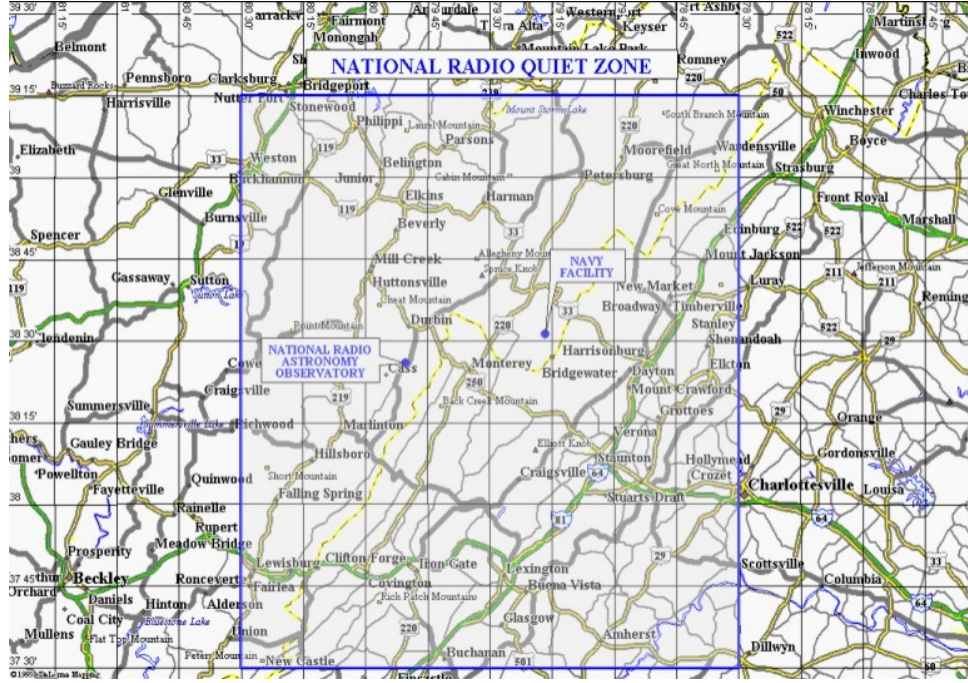

Figure 2.2: The National Radio Quiet Zone.
- **Location in the National Radio Quiet Zone** Comparatively low RFI environment. (See Figure 2.2).